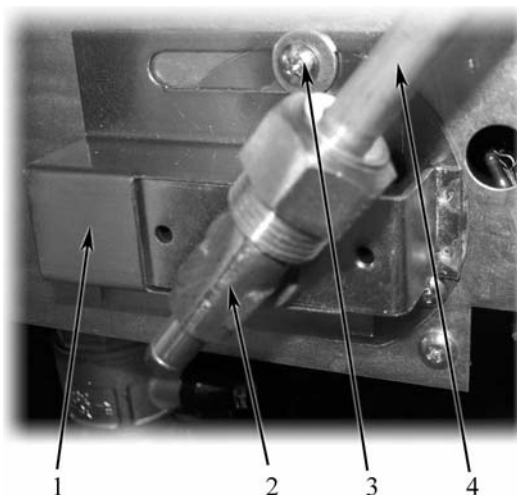
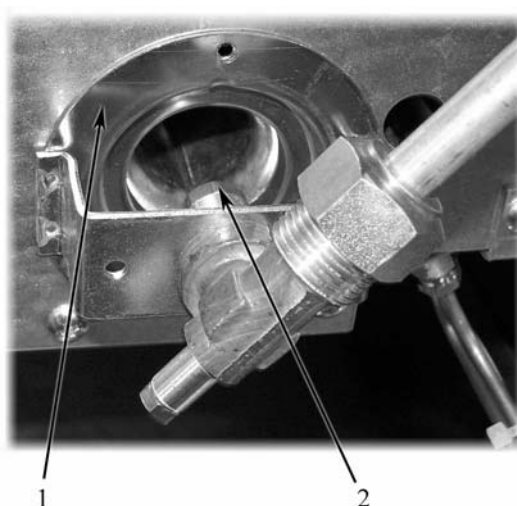

Fig. 4
Fig. 5
- To replace the nozzle (item 2 in Fig. 5) remove the plate for regulating air (item 1 in Fig. 4), remove the fixing screw (item 3 in Fig. 4) ;